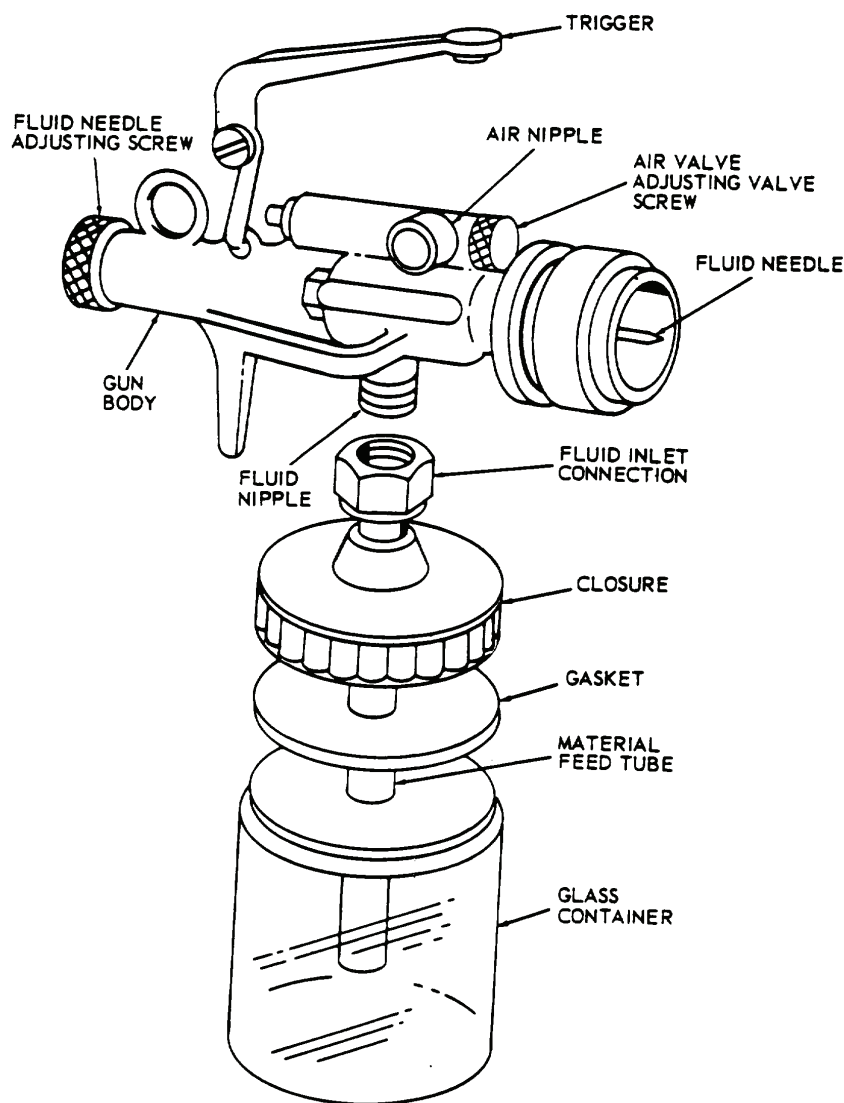

Figure 13-6. Attached-Container Type Spray Gun
- The material feed tube is resting on bottom of container. Refer to Figure 13-6.